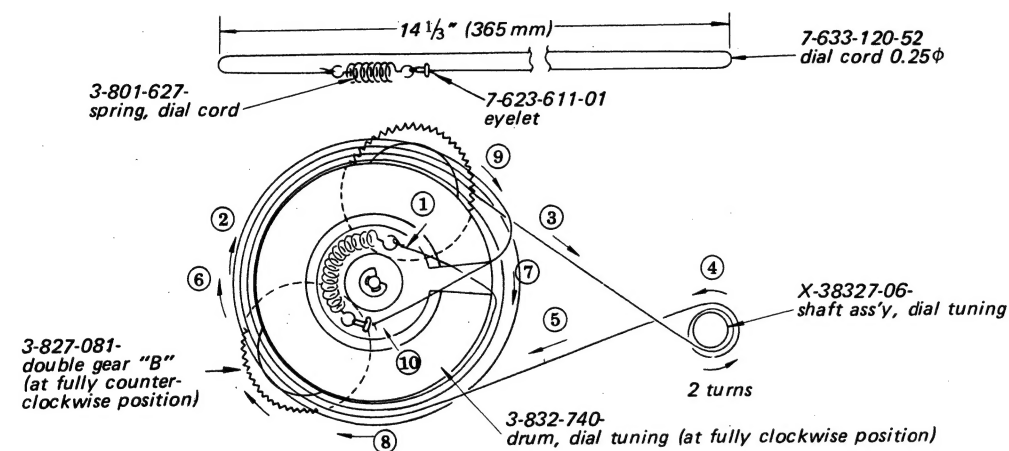

Fig. 2-22. Tuning capacitor driving cord stringing
1. Cut a dial cord and make a loop as shown in Fig. 2-22 using a spring and an eyelet.
2. String the tuning capacitor driving cord in numerical order as shown in Fig. 2-22.